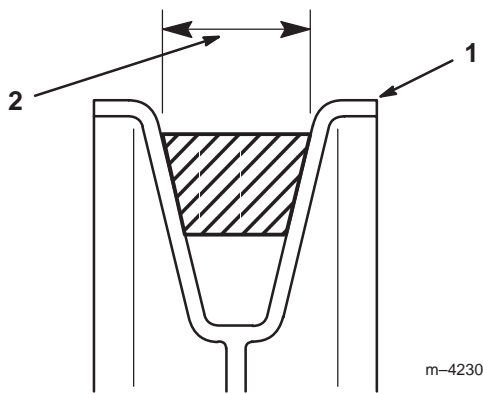

Figure 14
7. Ensure that the wide side of the PTO drive belt is toward the outside diameter of **all four pulleys** (Fig. 14).